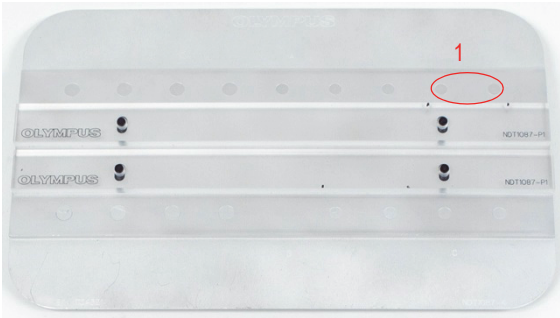

Figure 5-117 Position 1 on the standard
3. Place the probe on position 1 of the standard (see Figure 5-117 on page 211), and then press the A-LIFT NULL key ().
11. Place the probe on position 1 of the standard (see Figure 5-117 on page 211), and then press the A-LIFT NULL key (⊕).